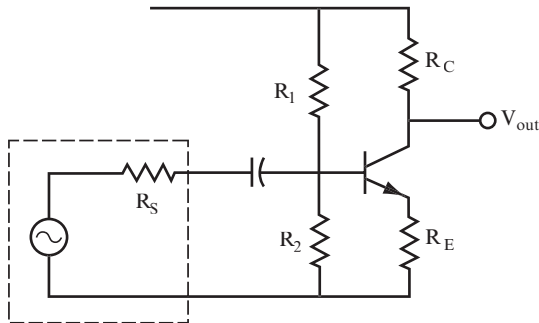

FIGURE 9.6
4 The amplifier shown in Figure 9.6 is the same type of amplifier that was discussed in problems 11–18 of Chapter 8, “Transistor Amplifiers.” It is called a *common emitter amplifier*.
5 In the circuit shown in Figure 9.6, an input signal applied to the base will be amplified.
- B.** What is the voltage gain formula for the amplifier circuit shown in Figure 9.6? _____